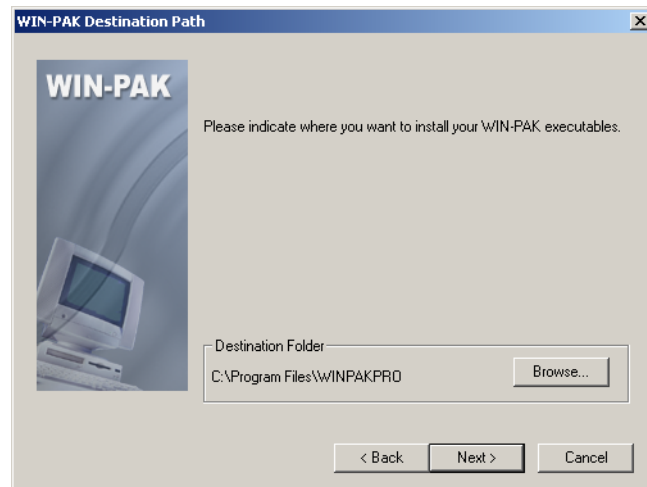

Figure 2-7 *Select Destination Folder*
1. On the **WIN-PAK Setup Type** screen, select **Complete Installation** and click **Next**. The system checks for SQL Service status and displays the screen shown in *Figure 2-7*.